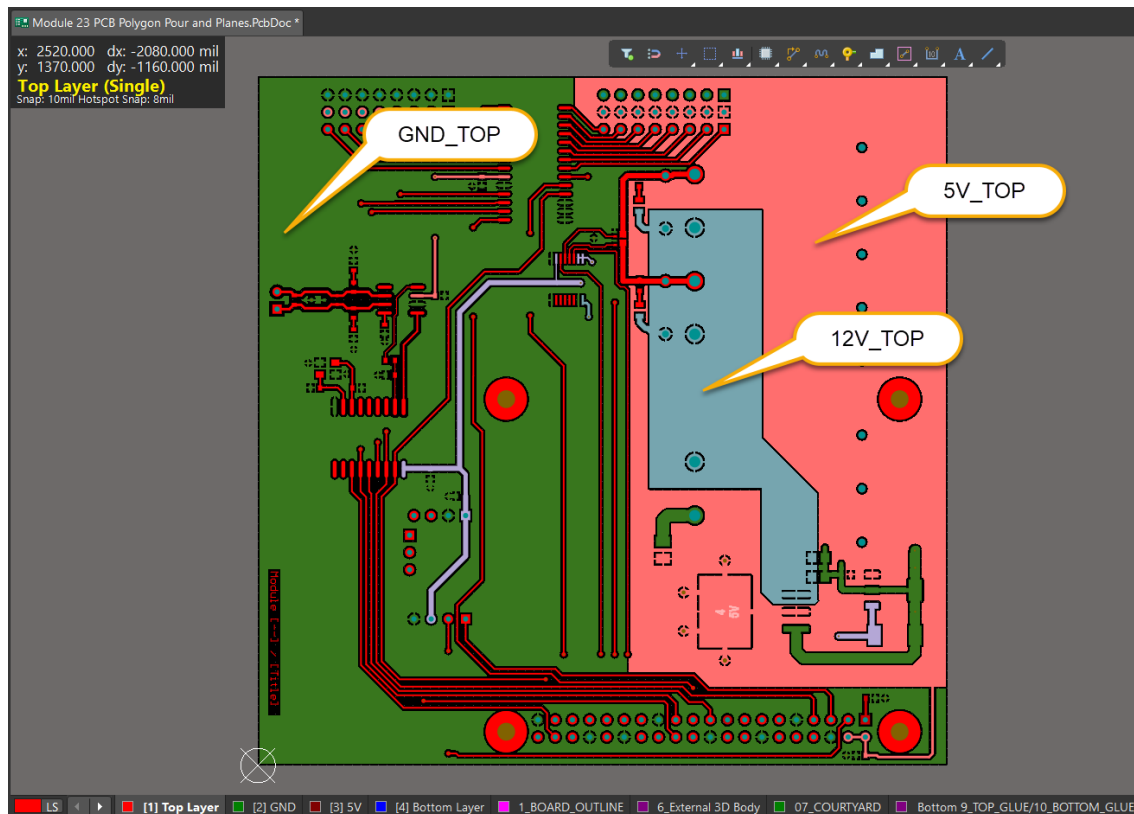

Figure 10. Polygon Pours on Top Layer
34. Click on the Top Layer from the layer bar to set it as the active layer. Notice the multiple polygon pours on this layer and the specific clearances as shown in Figure 10. With multiple polygons overlapping, pour order or priority must be defined.